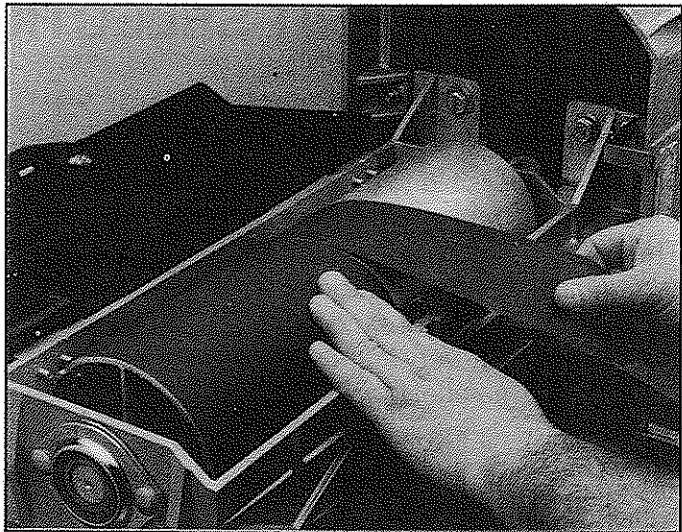

Figure 18
3. Once the abrasive strip is secured in the left clip, stand in front of the unit and radially wrap the abrasive material. Roll the drum away from you with your left hand while holding tension on the abrasive strip with your right hand and guiding the material onto the drum. Use this technique to wrap the abrasive strip edge to edge radially around the drum. Make sure you do not overlap the material as you wrap the abrasive (Figure 18). The material should be flush to slightly gapped, but not overlapped, during the wrap.